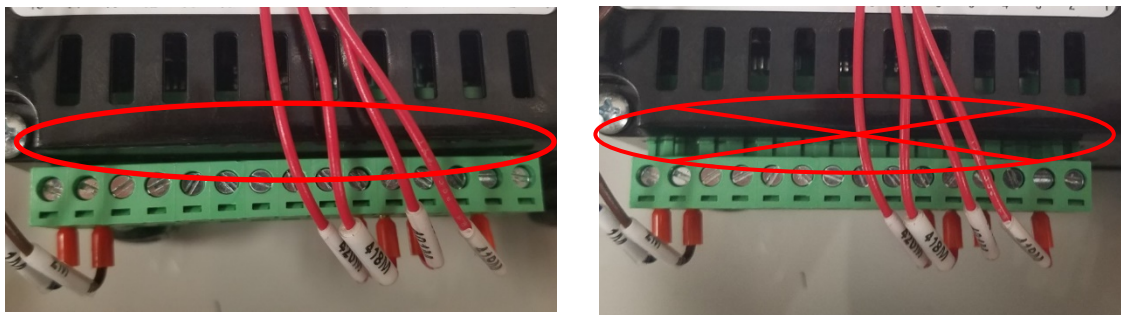

Figure 92. Firmly Seat Terminal Strips
14. Insure both terminal strips are firmly seated. Leaving them loose can lead to intermittent issues during operation or leave the machine unable to run. **Refer to Figure 92.**